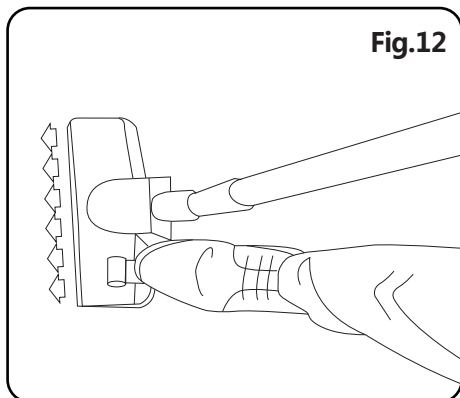

Fig.12
3. As in fig.12, tread on the pedal of the brush tool to let the bristles out, and you can clean the floor.